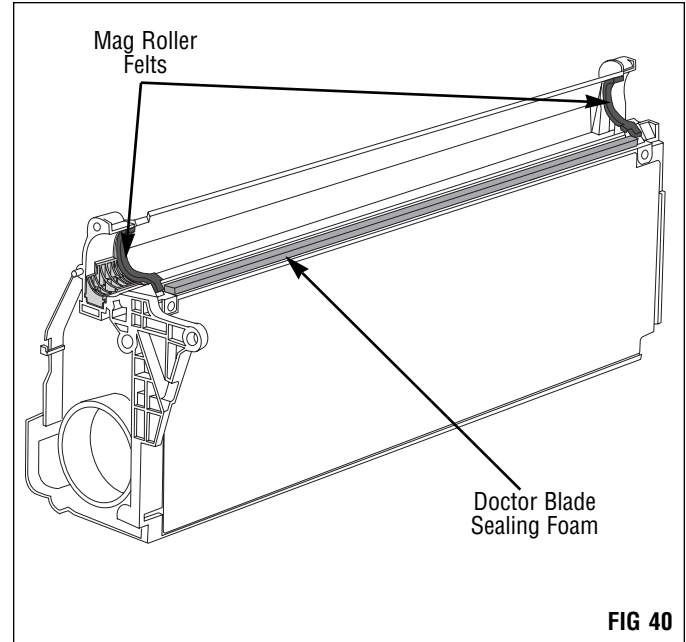

FIG 40
9. **Inspect the sealing components in the hopper section and replace as required (FIG 40).**